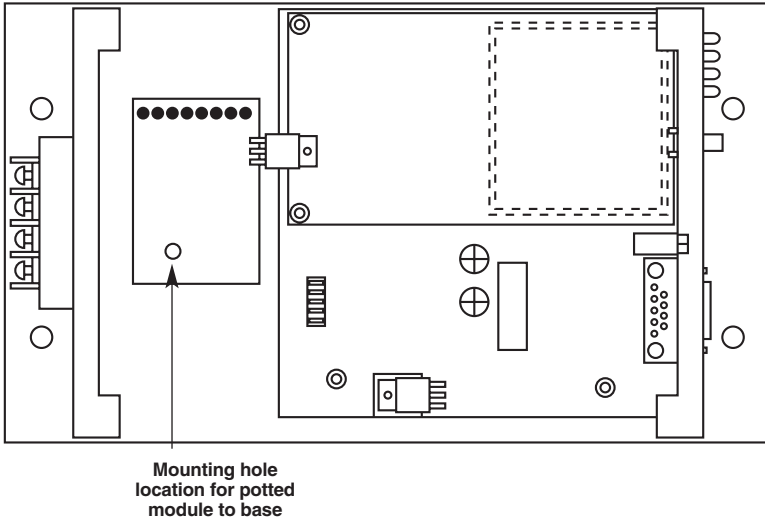

Figure 4-2. RS-485/4 Modem Module Installed.
(0) Set Operation Mode
When item (0) is selected, the Operation Mode Menu appears, as shown in Figure 4-2. The Operation Mode option is used to designate whether the modem will be a master or a slave. (You need one master and at least one slave in any setup.) In a point-to-point setup, either the master or slave may be used on either end of the communications link without any performance degradation. One consideration when setting up the modems is that a number of parameters are controlled by the settings in the master; therefore, you may wish to deploy the master on the communications end where you will have easier access to the modem.